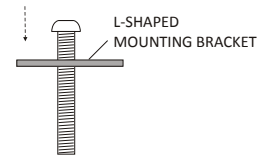

Figure 4-36
12. Insert bolt through hole in L-shaped mounting bracket. **See Figure 4-36.**